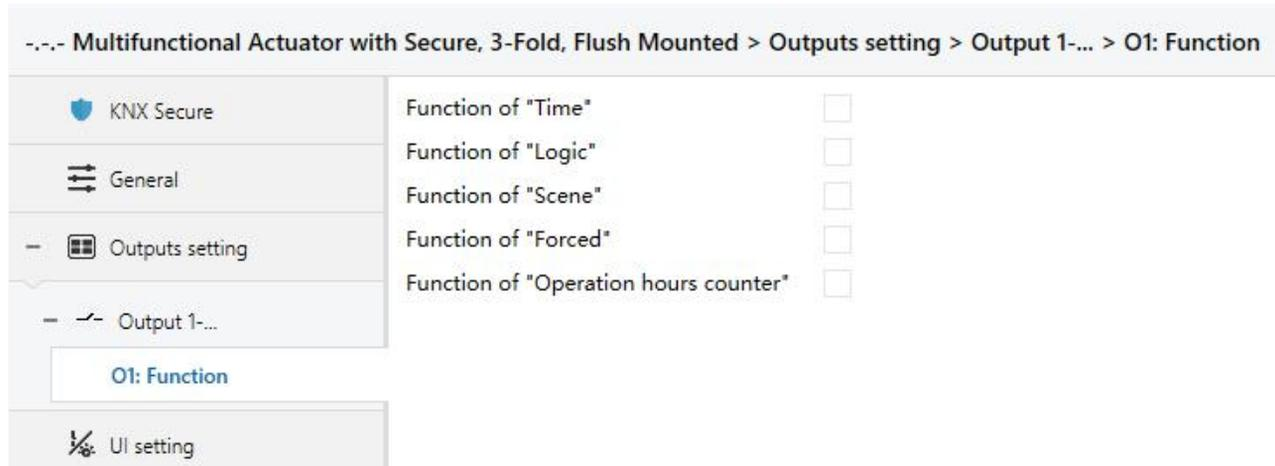
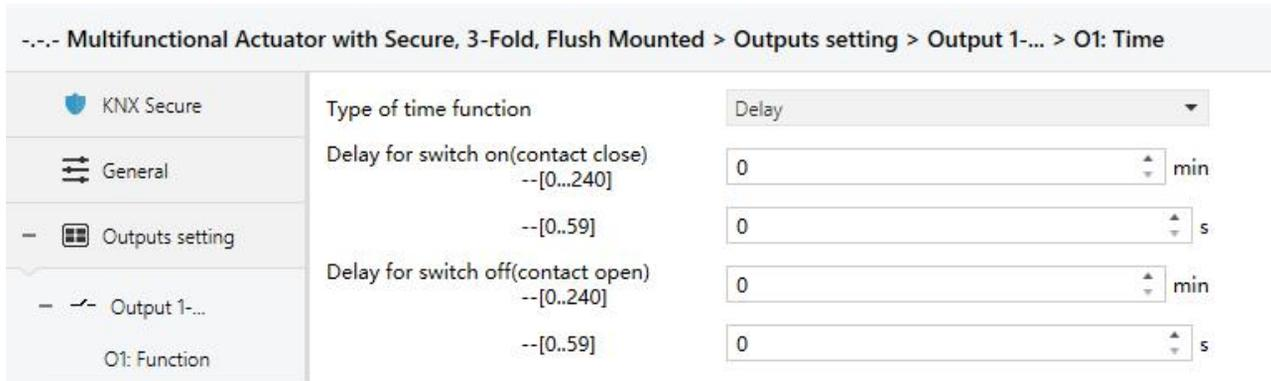

Fig. 4.4.1(2) Special function enable setting interface "Output X: Function"
Fig. 4.4.2 Parameter window "Output X: Time-Delay"
This parameter defines whether enable the special functions of the switch actuator, The parameter setting interface "Ox: Function" will be seen when select "Enable", and able to set the special functions individually in Fig. 4.4.1(2)
This parameter window is visible when selecting "enable" in the parameter "Function of 'time'" in the window "Output X: Function" shown in Fig. 4.4.1(2). See Fig. 4.4.2. And the object "enable time function" will be also visible, which is used to disable the time function. After disabled, previous operation is still carried out completely. Such as delay switch on, the function is disabled during delay, and then the switch is still switched on once the delay has been finished.